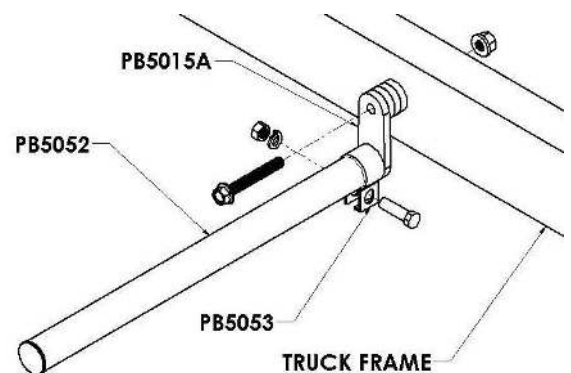

Figure 12
- A. Once the brackets are placed in position with the fender, securely tighten the 5/8" x 4-1/2" bolts that go through the PB5015 steel swivel to attach the swivel securely to the frame (Figure 12). **Recommended torque is 160-170 ft-lbs.**